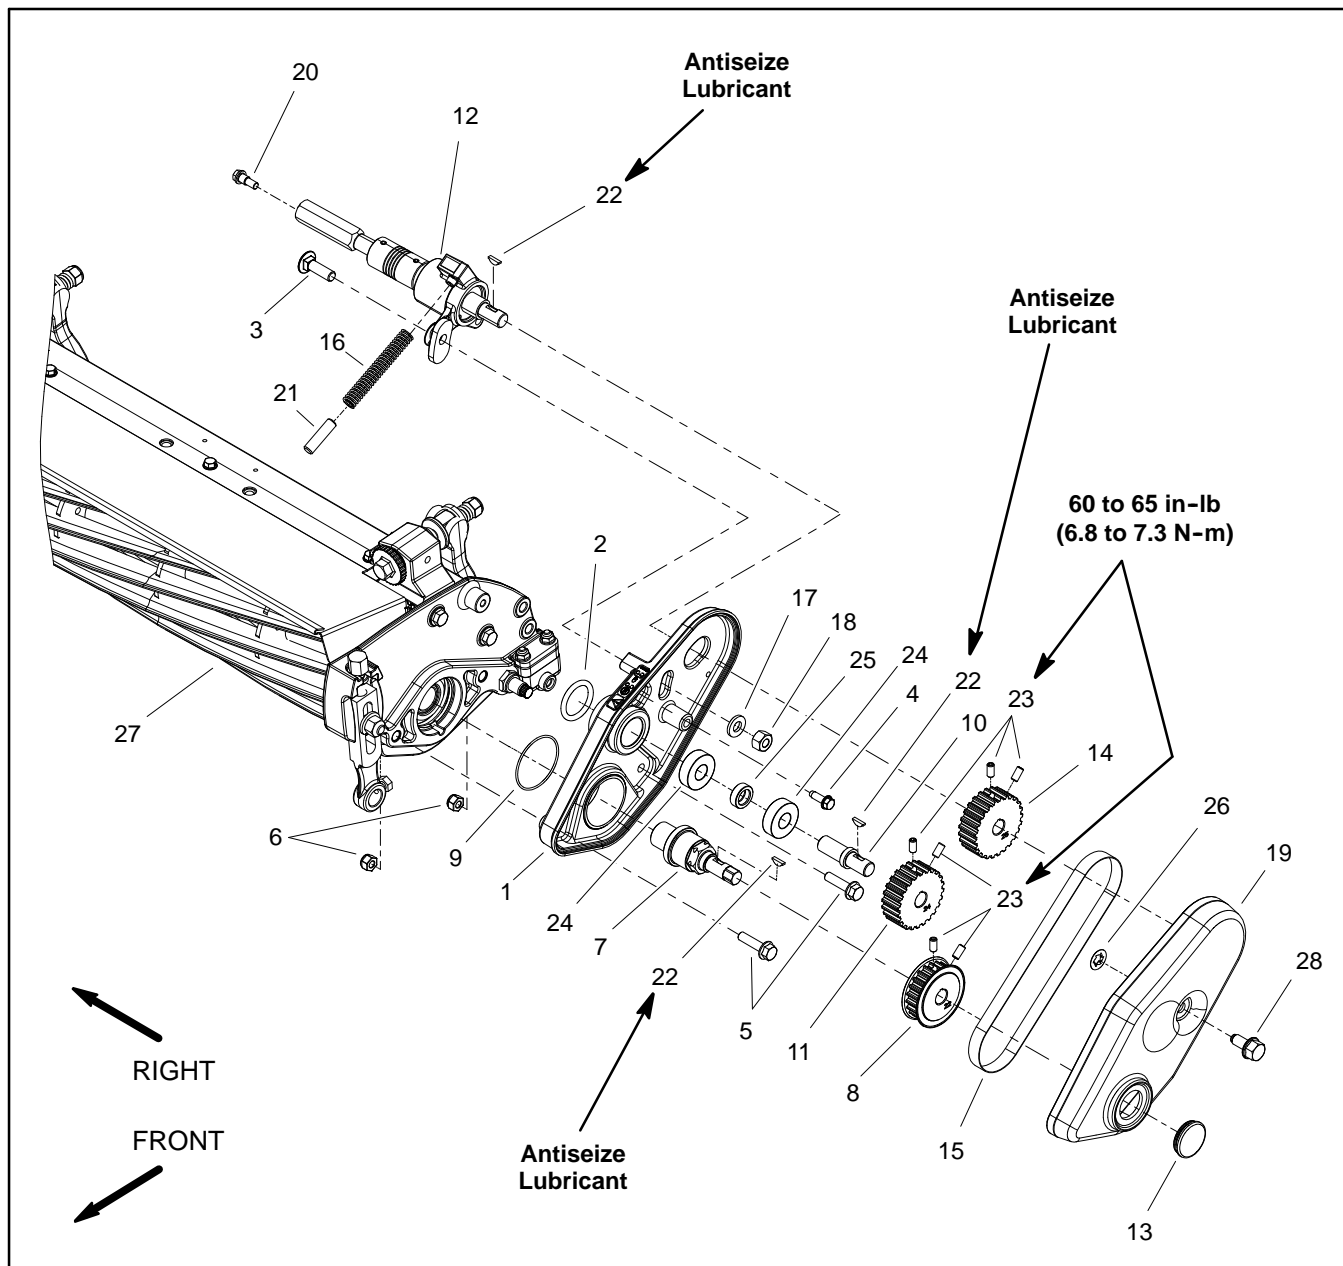
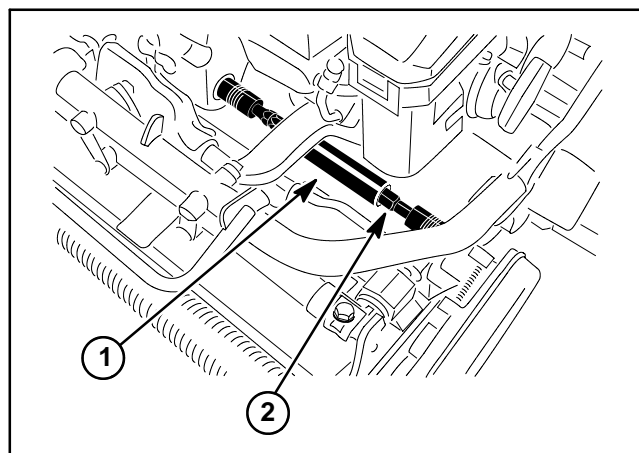

Figure 13
Figure 14
Reel Drive Assembly Removal (Fig. 13)
2. Slide the telescoping coupler off the cutting unit hex shaft (Fig. 14).
4. Loosen two (2) set screws (item 23) that secure reel pulley (item 8) to reel drive shaft (item 7). Slide pulley from drive shaft. Locate and retrieve woodruff key (item 22) from shaft.
5. Remove washer head screw (item 4) that secures reel drive housing to cutting unit side plate.
6. Remove two (2) flange head screws (item 5) that secure reel drive housing to cutting unit side plate.
8. Remove components from reel drive housing as necessary using Figure 13 as a guide.
A. If idler shaft bearings (item 24) are to be removed, use press to remove bearings and bearing spacer from shaft. Discard bearings after removal.
Reel Drive Assembly Installation (Fig. 13)
1. Install all removed components to reel drive housing using Figure 13 as a guide.
A. If bearings (item 24) were removed from idler shaft, use press to install bearings and bearing spacer onto shaft.
2. Apply light coating of grease on reel drive housing O-rings (items 2 and 9).
3. Position reel drive assembly to cutting unit. Make sure that spring pin (item 21) and compression spring (item 16) are positioned between reel drive housing and bearing housing assembly.
4. Secure reel drive assembly with two (2) flange head screws (item 5) and washer head screw (item 4).
5. Install woodruff key (item 22) to reel drive shaft (item 7). Apply antiseize lubricant to top of key.
6. Slide reel pulley (item 8) onto reel drive shaft until it contacts shoulder on shaft. Secure reel pulley with two (2) set screws (item 23). Torque set screws from **60 to 65 in-lb (6.8 to 7.3 N-m)**.
8. Slide the telescoping coupler onto the cutting unit hex shaft (Fig. 14).